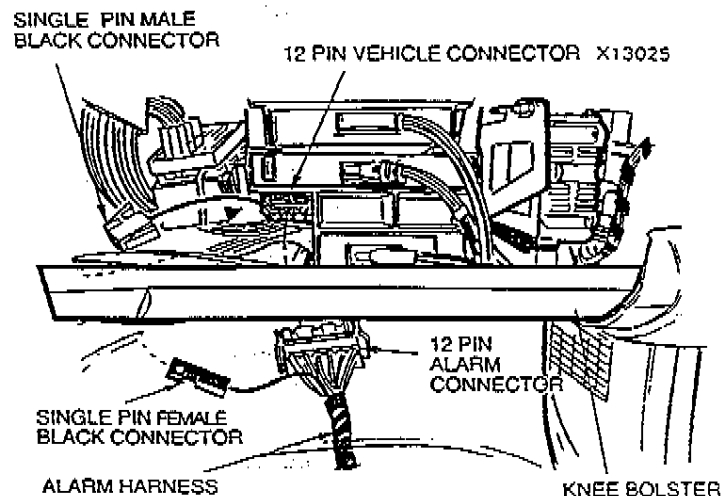

FIGURE 12
- See Figure 12 . Locate factory installed hood switch connector (single position black Amp male connector) violet/green/yellow wire and connect to the alarm harness single position black AMP female connector.